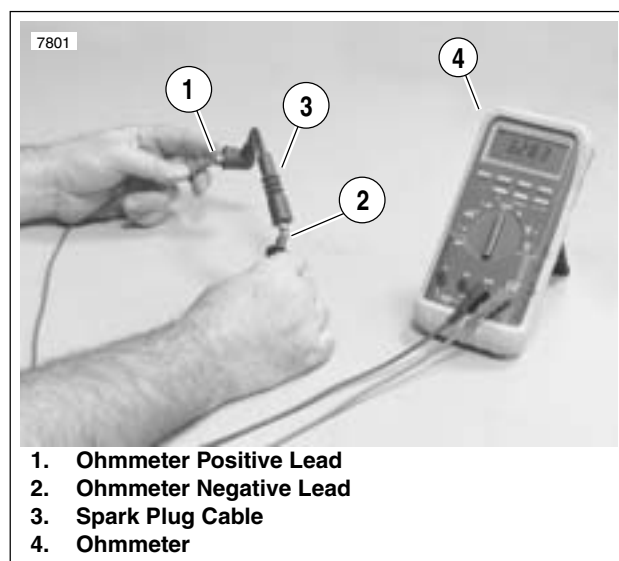

Figure 7-29. Testing Resistance
3. See Figure 7-29. Check spark plug cable resistance with an ohmmeter. Replace cables not meeting resistance specifications.